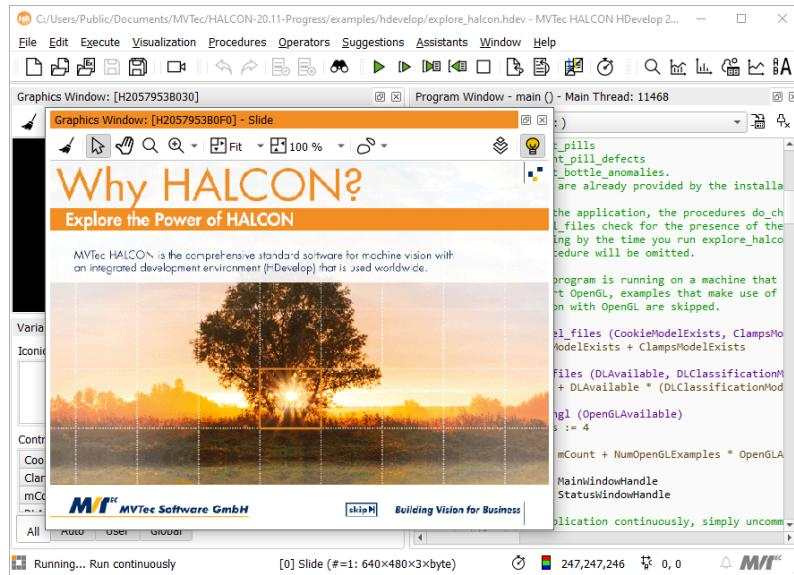

Figure 2.3: Explore the power of HALCON.
“Explore the Power of HALCON” starts up automatically when loaded from the start dialog. After loading it manually or loading one of the other example programs click ▶ or press **F5** to start it, see figure 2.3 (1).